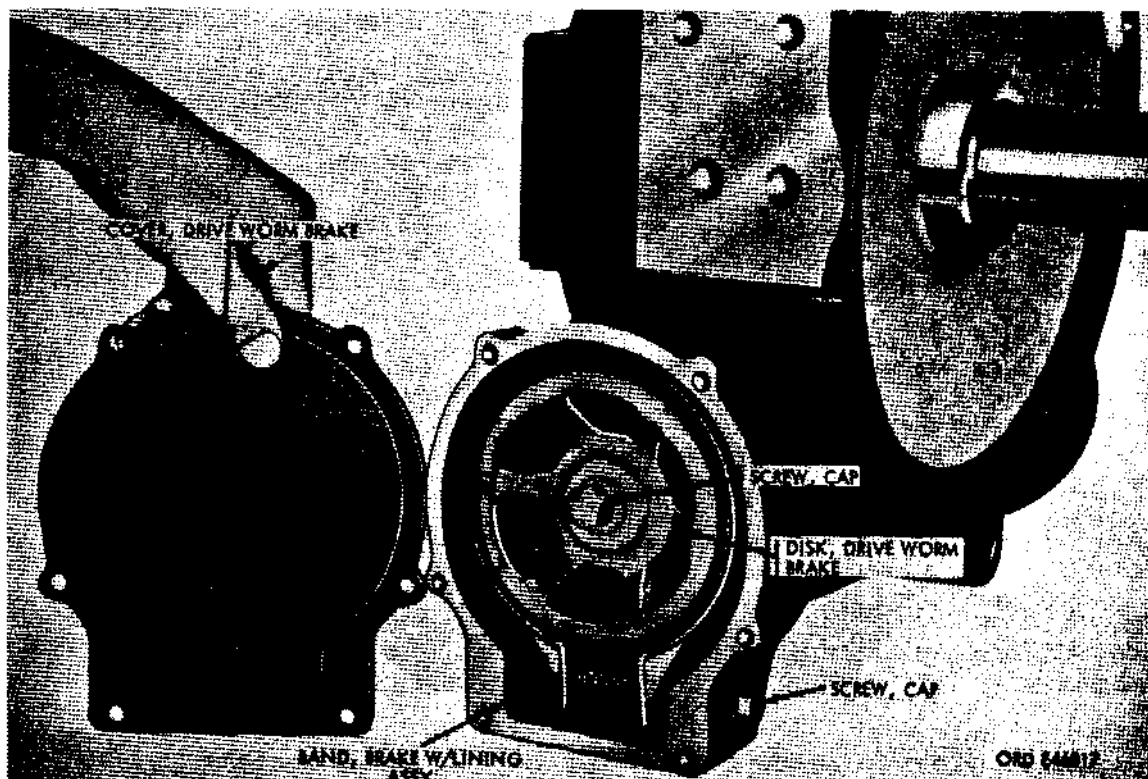

Figure 47. Removing drive worm brake cover
Remove six cap screws with external-teeth lockwashers and lift off drive worm brake cover (fig. 47).
Remove the cap screw (fig. 47) used for adjusting the brake band, plain washer, and O-ring gasket. Pull brake band with lining assembly from drive worm brake case.
Remove cap screw, lockwasher, and disk retaining washer and pull drive worm brake disk (fig. 47), using a suitable puller. Remove square key from drive worm.
- (5) Position square key in drive worm and press drive worm brake disk (fig. 47) onto worm. Position disk retaining washer and secure disk with cap screw and lockwasher.
- (6) Position brake band with lining assembly (fig. 47) over brake disk and install adjusting screw spring. Place plain washer on cap screw. Place O-ring gasket on cap screw and install screw through drive worm brake case, spring, and lugs on brake band assembly. Tighten cap screw sufficiently to hold brake band. Position drive worm brake cover with new gasket and secure with six cap screws with external-teeth lockwashers.